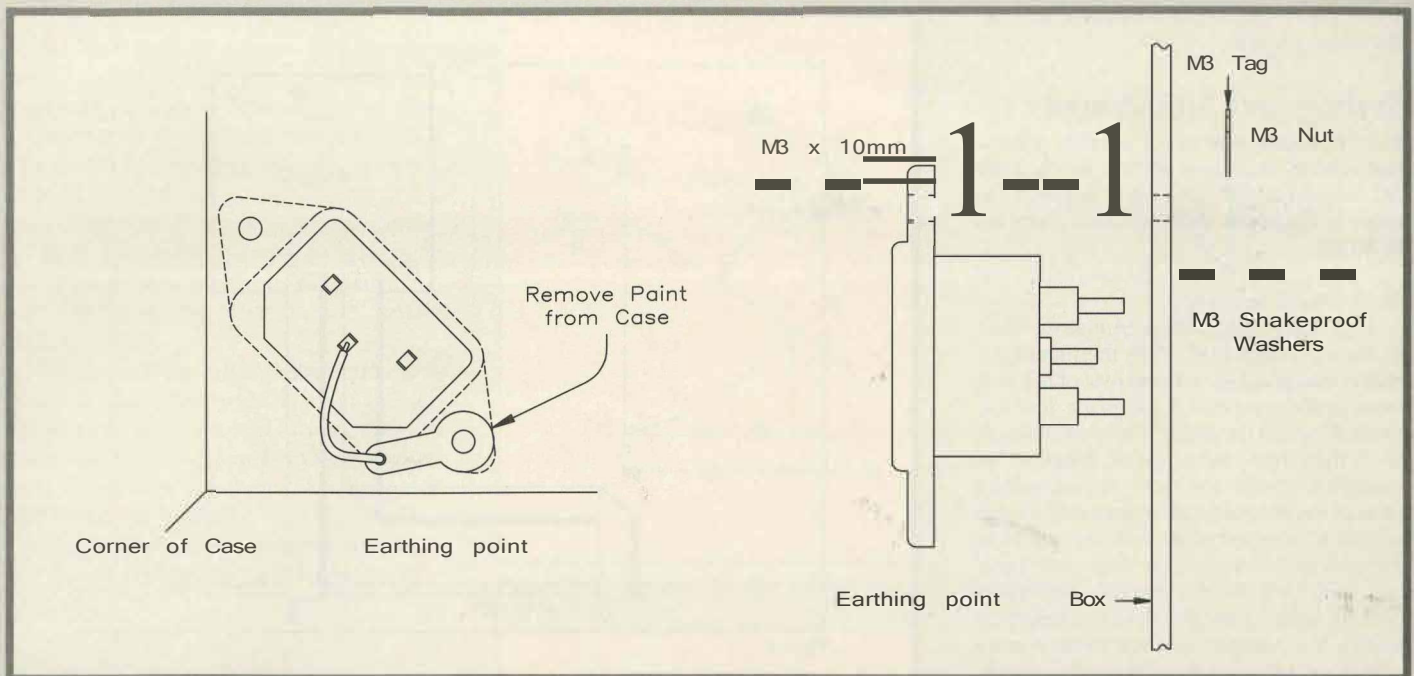

Figure 6. Mains connector installation details.
4. Solder a suitably-coloured wire from the earth connector of the mains connector to the M3 solder tag. Remove the paint from around the lower mains connector mounting hole, as shown in Figure 6. Fit the IEC mains connector to the rear panel, using the countersunk 8mm M3 screws, so that its earth pin is closest to bottom corner. Don't forget to include the earthed solder tag, which should be fastened against the metal bared earlier.